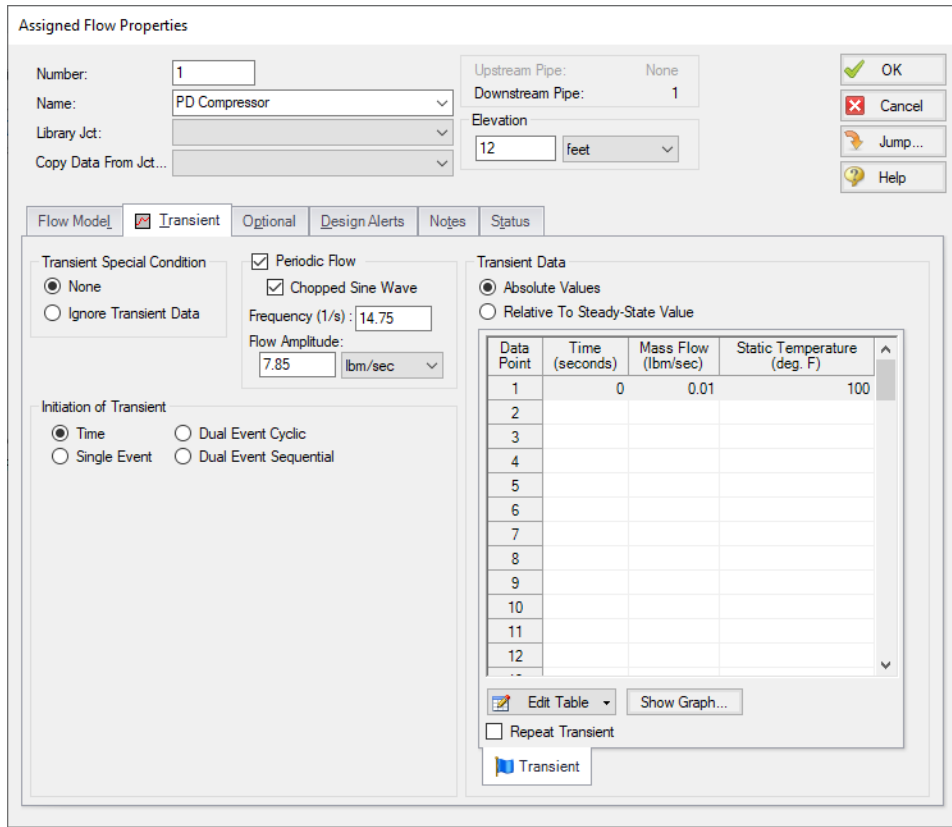

Figure 7: Assigned Flow Properties window with Periodic Flow transient applied
6. Set the Flow Amplitude to 7.85 lbm/sec (Figure 7).